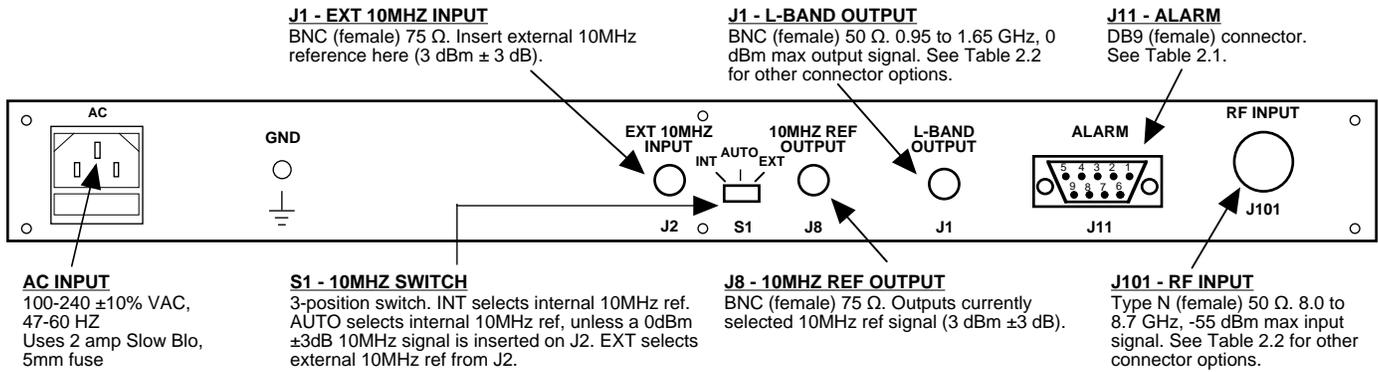

FIGURE 2.1 2116-80 Rear Panel I/O's
2.2 Rear Panel Input/Output Signals - Figure 2.1 shows the input and output connectors on the rear panel.
- 1.) Connect a -55 dBm to -35 dBm signal to RF INPUT, J101 (Figure 2.1).
- 5.) Select either INT (for internal 10MHz ref), AUTO (for internal 10MHz ref UNLESS a external 10MHz, 0 dBm signal is connected to J2), or EXT (for external 10MHz, 0 dBm ref that is inserted at J2) on rear panel switch S1 (Figure 2.1).
- 7.) Check that a 10MHz, 0 dBm \pm 3 dB signal is present at the 10MHZ REF OUTPUT (J8) (Figure 2.1).